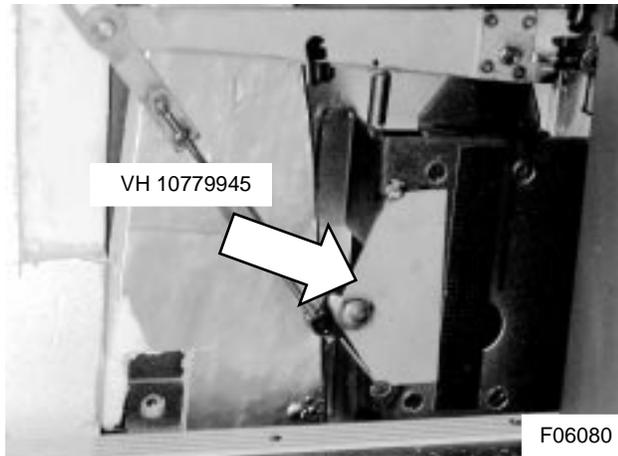

Figure 18: Door lock cam support bracket installation
- 12) Install cam support VH 10779945. Make sure the recess in the bracket cylinder fits snugly over the cam washer. Spot weld the support to the door lock mounting bracket. Figure 18 shows the installation completed.